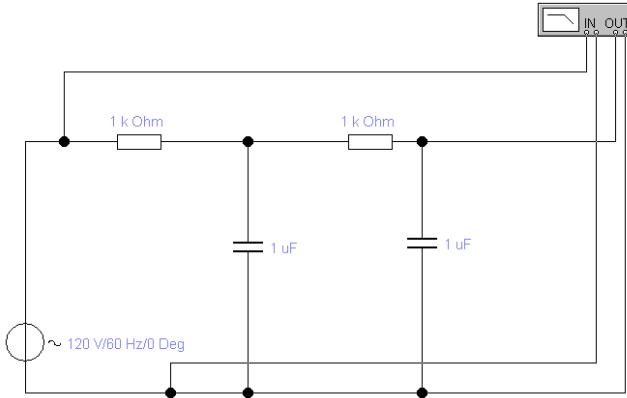

Figure 8.5 - Two-point low-pass filter
- 1 Draw a pattern of Fig. 8.5.